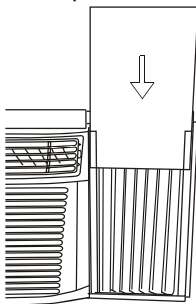

Fig.22
Step 3. Slide the R1 insulation panel into the side curtain, the side with pattern should facing the indoor side.(Fig.22).